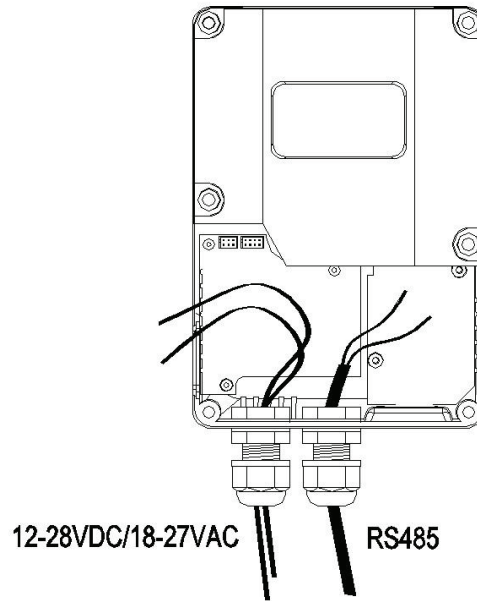

Fig. 7.
3. Run the power cable and RS-485 cable through each waterproof connector as shown in Fig. 7.